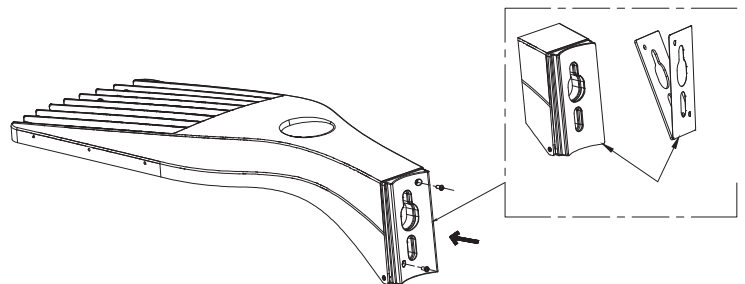

Fig 2
2. Stick it to the designated position on the fixture (Fig 2).
Use 2 M4 screws to lock the buffer pad onto the round pole mounting bracket (tighten with the hex key, as shown in Fig 2).
Use a Phillips screwdriver to tighten the first 2 screws (marked "Initial Fixing Screws" in Fig 2) to secure the reflector temporarily.